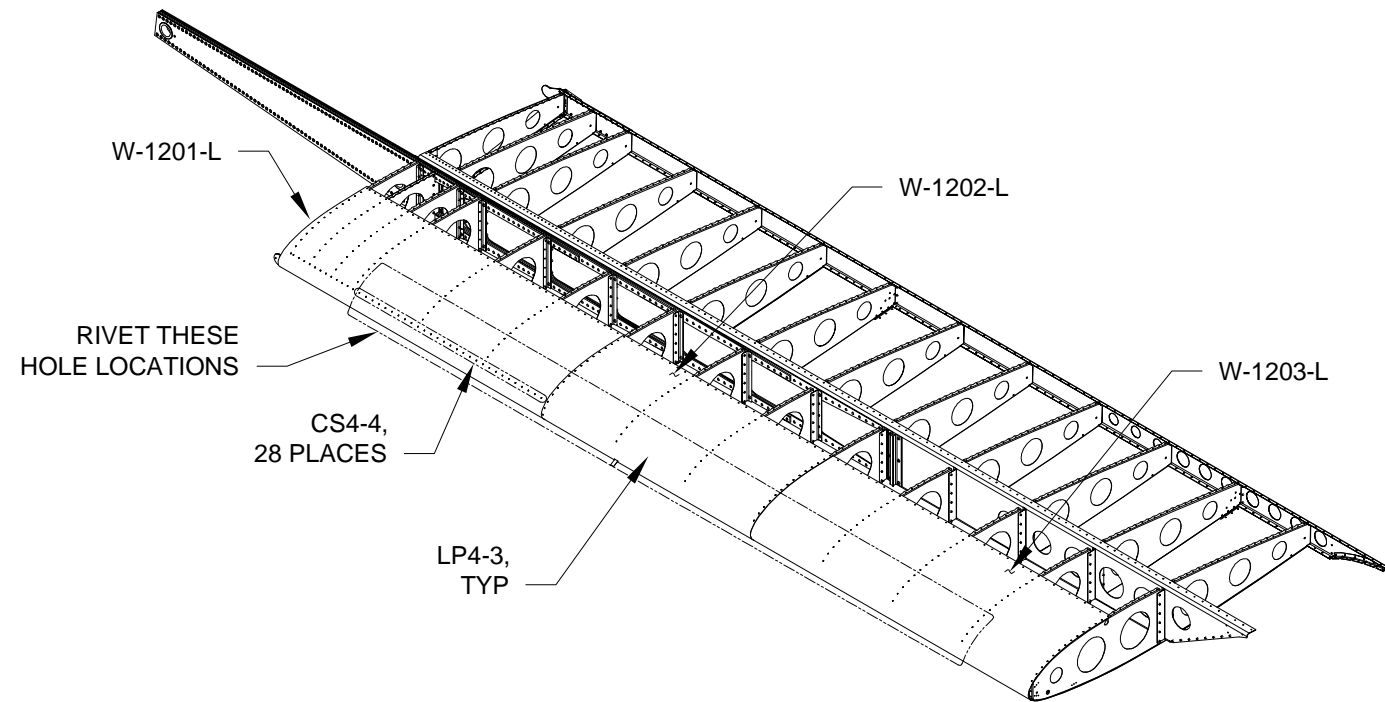

FIGURE 1: RIVETING THE LEADING EDGE
Step 2: Cleco the W-1201-L, W-1202-L, & W-1203-L Inbd, Mid, & Outbd Wing Skins to the skeleton using the open holes on the bottom and the top of the wing. Rivet the inbd, mid, & outbd wing skins to the skeleton as called-out in Figure 1. Remove any remaining clecos.